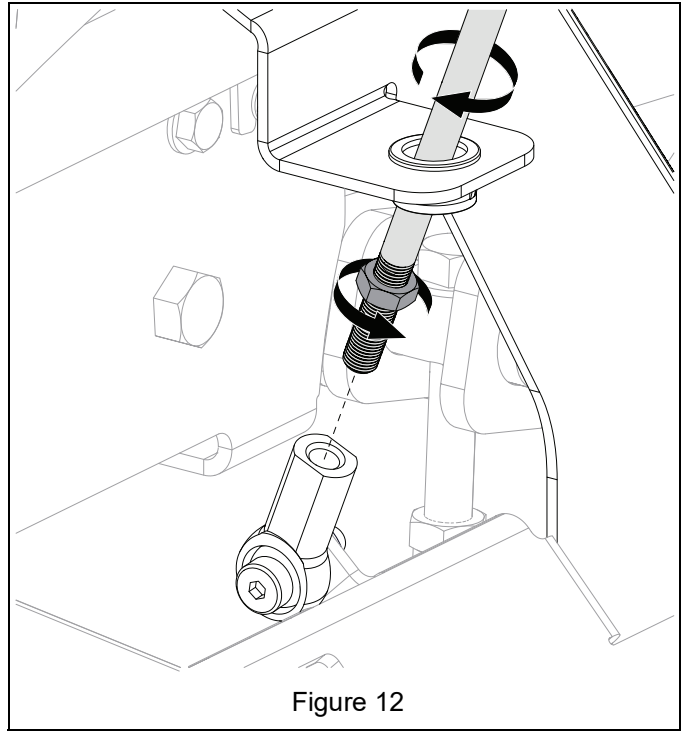

Figure 12
12. Turn jam nut up handle threads and turn handle assembly clockwise into ball joint. See Figure 12.